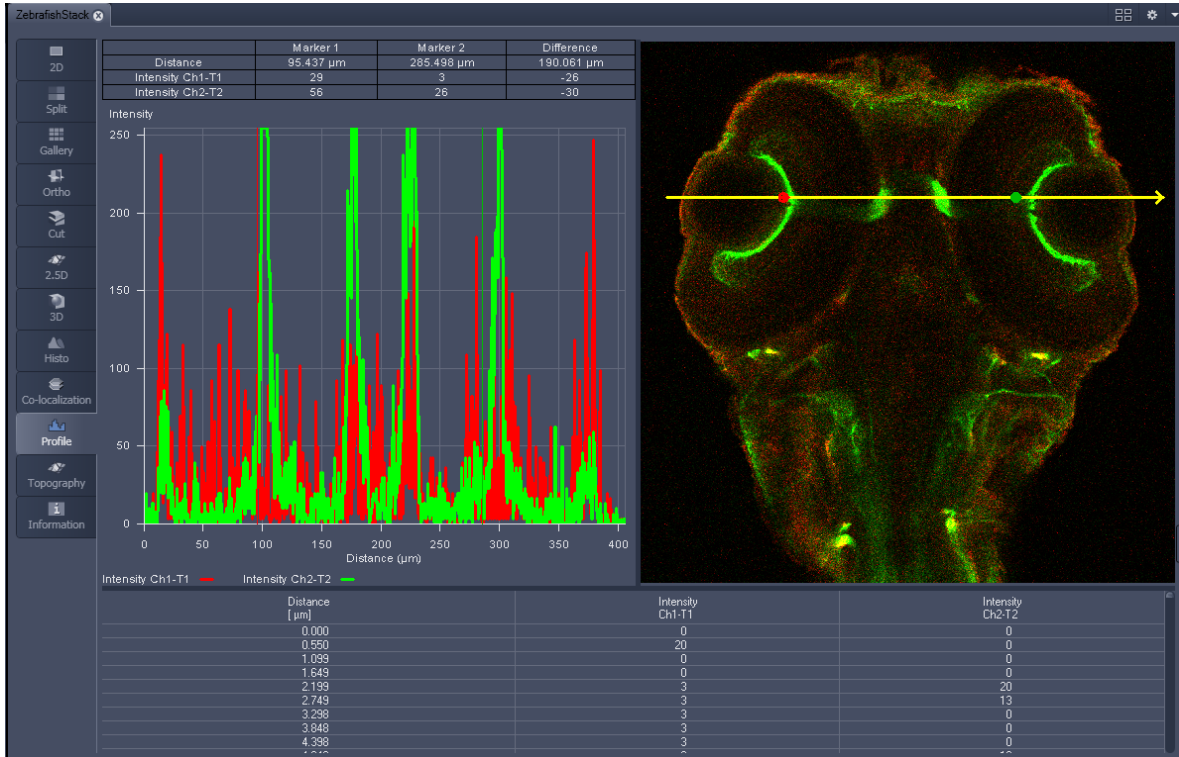

Fig. 541 Image Display - Profile View, Line Profile with markers
- Draw a Profile line in the image display to define a profile. The intensity curves are shown in a separate graph (see Fig. 541).